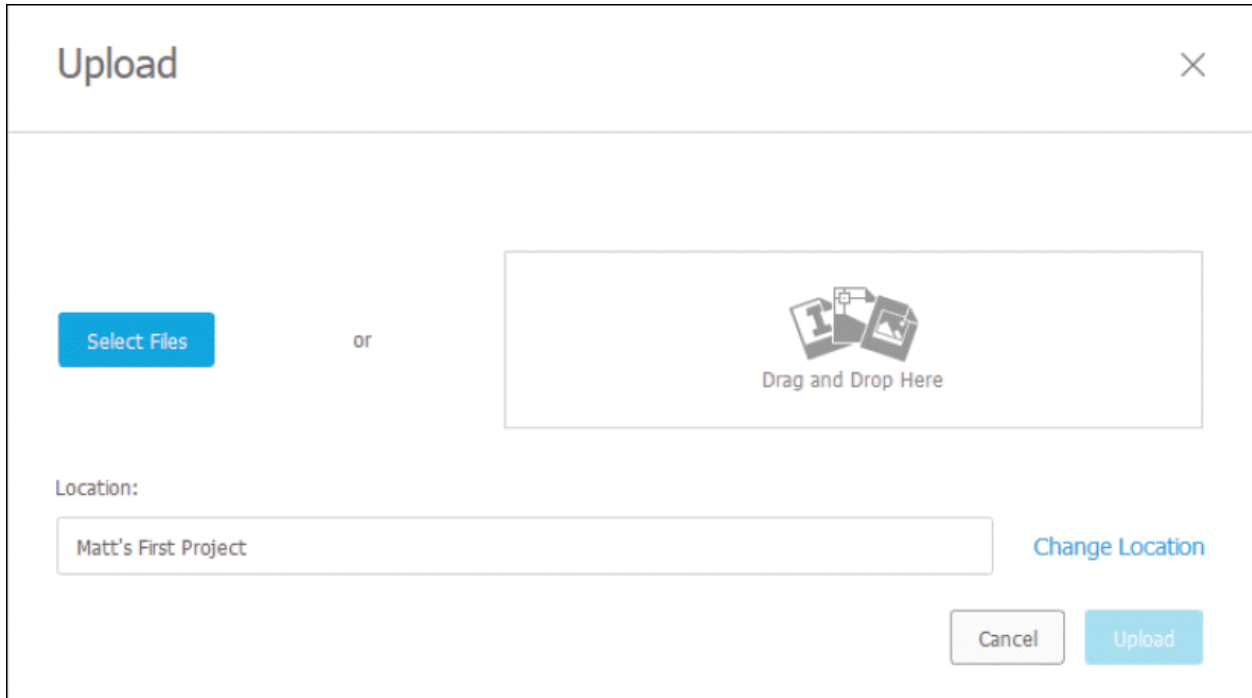

Figure-18. Upload dialog box
- Click on **Upload** button from the **File** menu. The **Upload** dialog box will be displayed; refer to Figure-18. Click on the **Select Files** button or Drag & Drop the files to be uploaded in the **Drag and Drop Here** area of the dialog box.